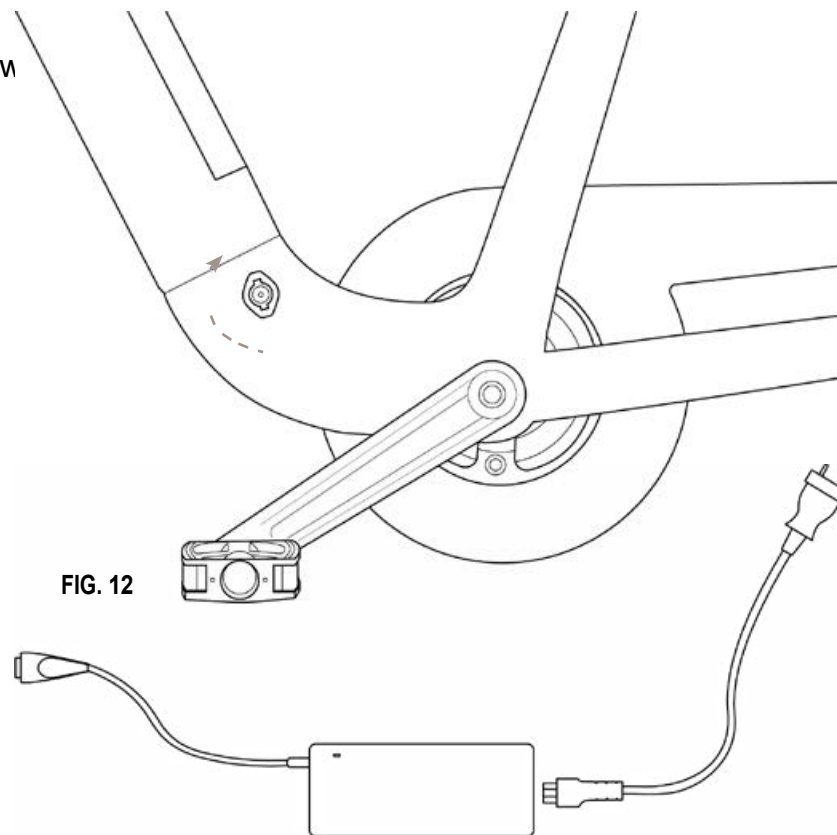

FIG. 12
2. Lift the rubber cap on the battery charging port, located on the left side of the frame (FIG. 12);